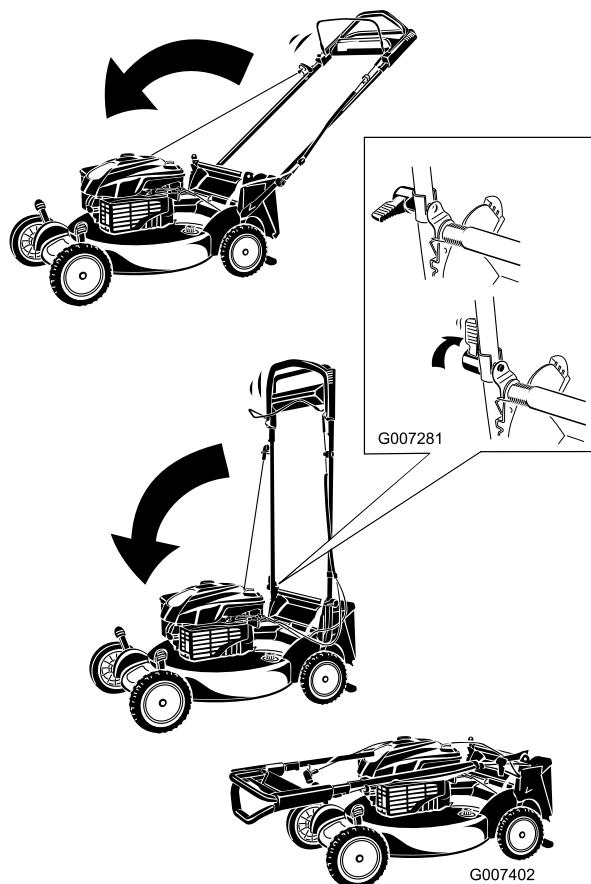

Figure 40
1. Rotate the handle forward (Figure 40).